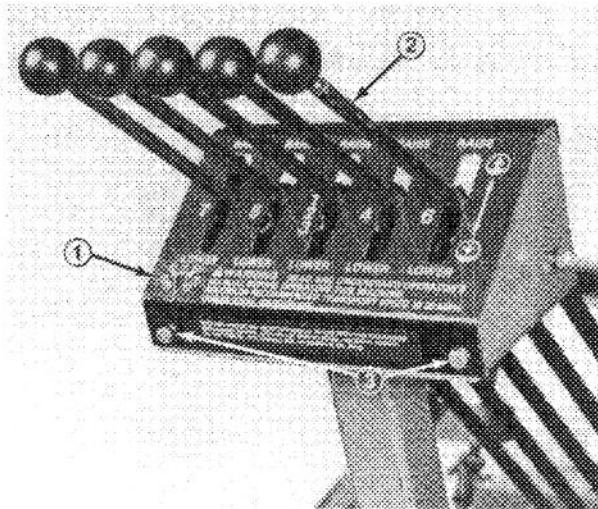

Figure 8
Note: To ease in assembly of linkage, control panel cover may be removed from control tower, by removing (4) capscrews (Fig. 8).
2. Reinstall control panel cover (if previously removed), to control tower with (4) capscrews (Fig. 8).
3. Screw control levers into pivot blocks (Fig. 8).